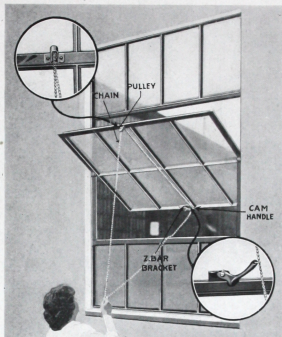

Fig. 3
Figure 3—Cam Latch and Chain supplied when specified on Fenestra Standard Sash (chain cost extra) where ventilators are some distance above the floor. The chain extends from the handle of the cam latch over a pulley at the top of the ventilator down to within easy reach and back to the handle of the cam latch again.
2. Cam Latch and Chain Operator. This method of operation has been described above. See Figure 3.